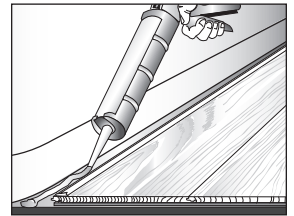

Figure 13
- All perimeter expansion zones must be completely filled with 100% silicone caulk following the manufacturer's recommendations. When applying caulk, it is helpful to first apply a strip of painter's tape (Scotch® Delicate Surface Painter's Tape 2080) parallel to and approximately 1/32" (.79 mm) from the edge of the WPC (Fig. 13). Then fill the expansion zone with caulk, remove the excess with a plastic scraper or putty knife and remove the tape.